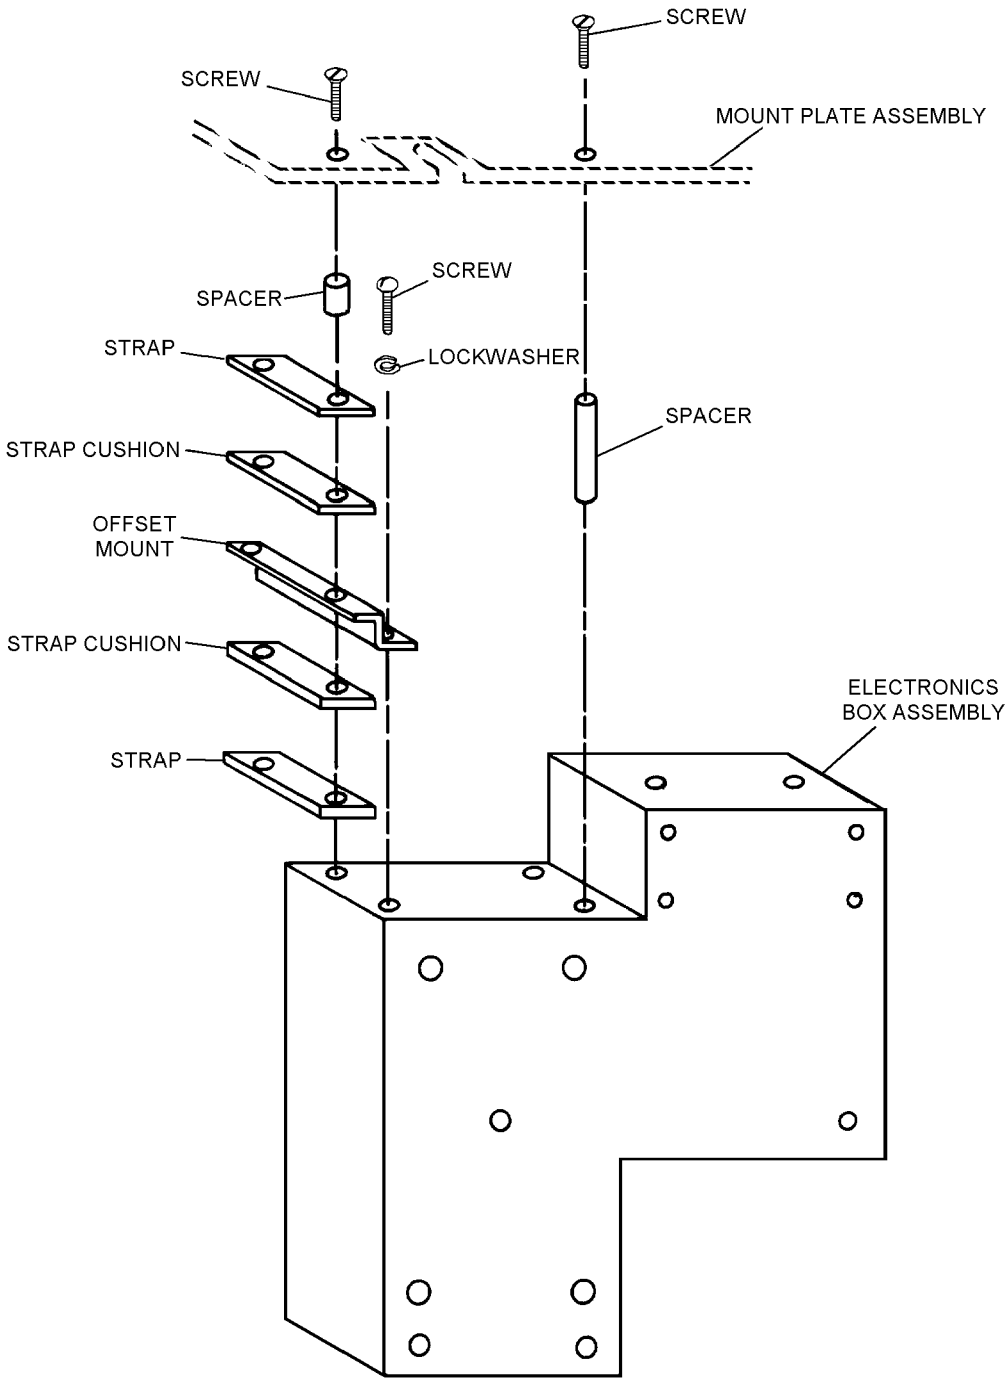

Figure 4-21. Securing Spacers to Electronics Box Assembly
b. Using super glue, secure strap (26) and cushion strap (25) and strap (24) and cushion strap (25) to electrical mounting offset (23) as shown.
c. Apply sealing compound to lower two threads of two screws (21) and secure electrical mounting offset to electronics box assembly (8) with two screws (21) and lockwashers (22).
d. Using a small amount of super glue, center and secure two small spacers (19) over two screws holes on electrical mounting offset (23) as shown in figure 4-21.
e. Using a small amount of super glue, center and secure two long spacers (20) over two screw holes in electronic box as shown in figure 4-21.